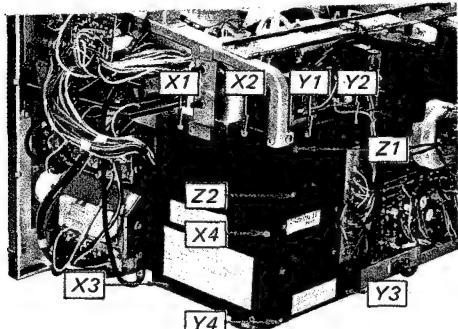

Fig. 2-32.
6. Remove the four screws labeled X1 ~ 4 in Fig. 2-32.
9. Remove the four screws labeled Y1~4 in Fig. 2-32.
11. Replace the horizontal output transformer by removing the two screws labeled Z1~2 in Fig. 2-32.